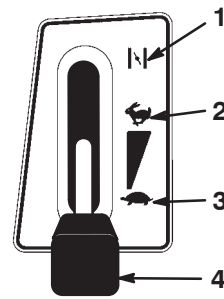

Figure 8
4. Shift the throttle lever to Choke (Fig. 8).
6. After the engine starts, slowly shift the throttle lever to Fast (Fig. 8). If the engine stalls or hesitates, shift the throttle lever back to Choke for a few seconds and then shift the throttle lever to Fast. Repeat this step as required.
1. Shift the throttle lever to Fast (Fig. 8).